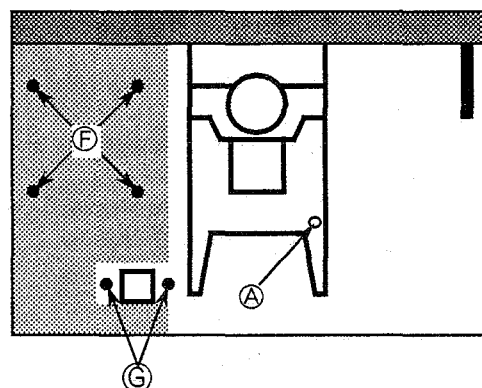

Figure 1
1. Connect an oscilloscope to TP 5(FE) and TP 4(GND).
3. Adjust R603(F.GAIN ADJ.) so that the waveform becomes below figure 1.